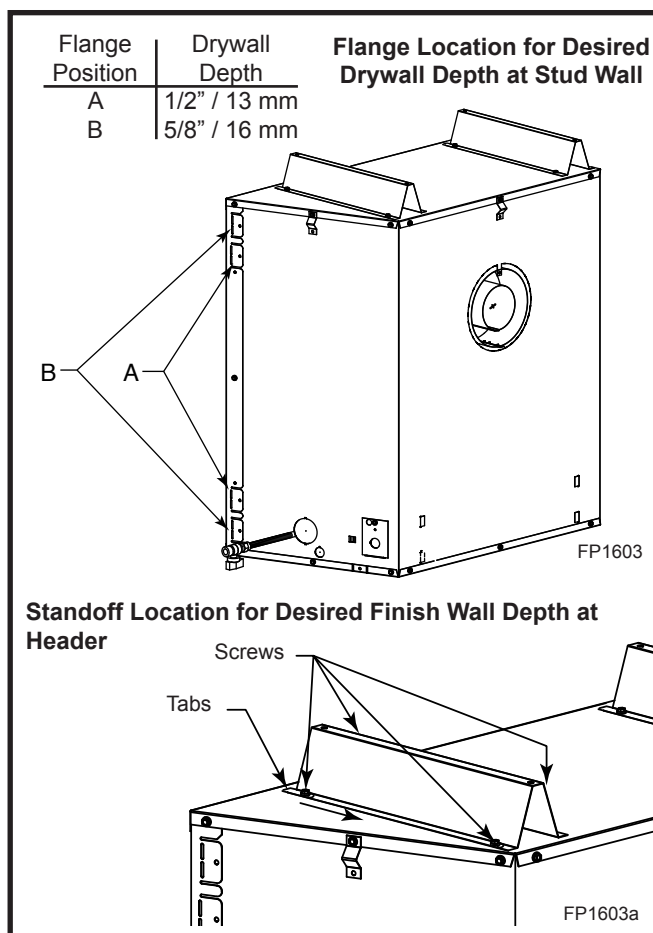

Fig. 5 Nailing flanges and standoffs.
2. This unit comes with four (4) flanges pre-mounted on both sides of the fireplace to allow two different drywall thicknesses to be used. Flange "A" is for 1/2" drywall while flange "B" is for 5/8" drywall.
4. The standoffs are adjustable for different drywall thicknesses. The unit is shipped from the factory at 1/2" (13 mm). Loosen the four (4) screws securing each standoff to the top of the fireplace. Slide the standoff back. Tighten the screws. This yields a 5/8" (16 mm) thick drywall space. Removing the standoff and having the tabs on the standoff face the rear of the unit yields a 3/4" (19 mm) drywall space. (Fig. 5)